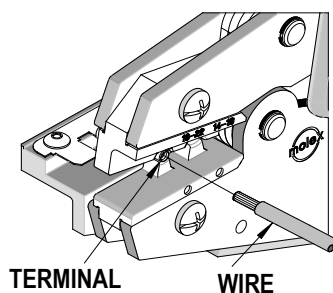

Figure 2
3. Partially close the tool to hold the terminal in place. See Figure 2.
4. Insert the properly stripped wire into the terminal barrel. See Figure 2 and 3. The wires end should butt against the wire stop stamped into each terminal. Cycle the tool.